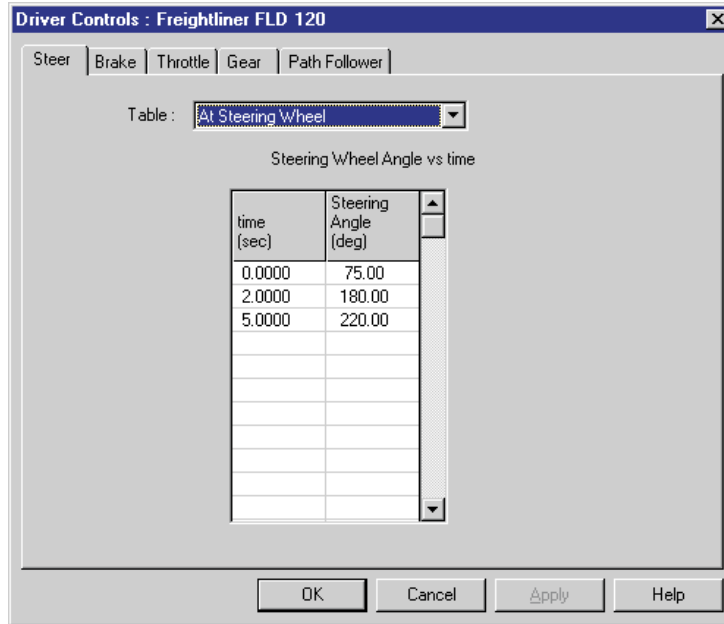

Figure 5-18 Driver Controls, Steer Table dialog. Our tutorial uses the *At Steering Wheel* option.
- Enter the steer angles for the Freightliner Tractor, as shown in Table 5-1 and Figure 5-18.